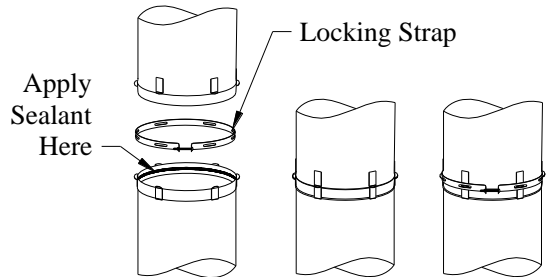

Fig 5B. (Locking Strap Joint)
1. Remove the Locking Strap from the Vent (See Fig.5B)
4. Smooth down the bead with a flat instrument or moistened finger (See Fig. 5B).
7. Install Bolt and Nut through the end tabs of the Locking Strap and tighten strap using a 7/16" nut driver or socket. CAUTION: DO NOT over tighten the clap as it may cause the vent to collapse (See Fig 5B).